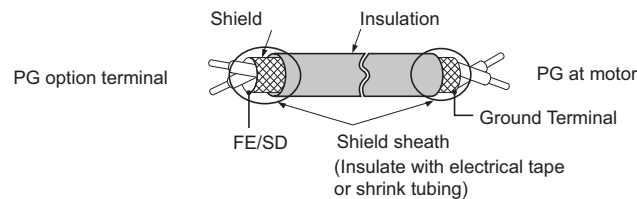
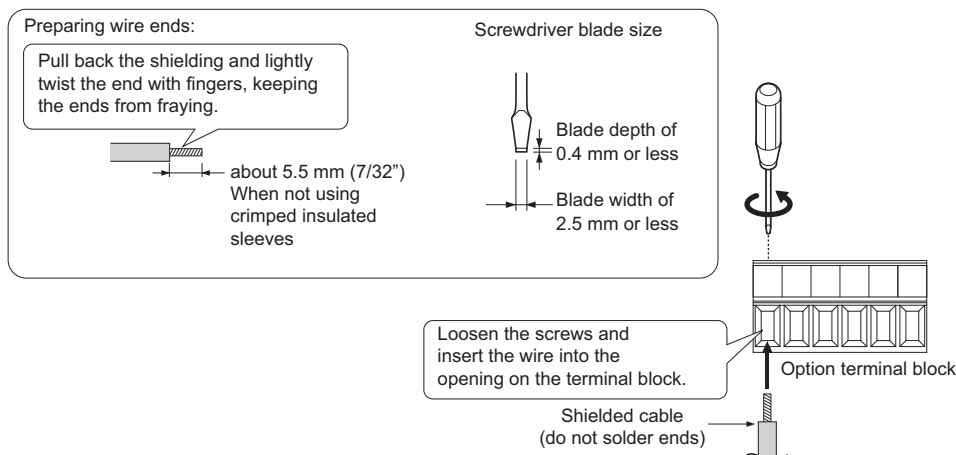

Figure 8.6 Preparing Ends of Shielded Cable
Figure 8.7 Preparing and Connecting Cable Wiring
2. There are two screw holes on the drive for use as ground terminals (H). When connecting three options, two ground wires will need to share the same drive ground terminal.
4. Prepare and connect the wire ends as shown in **Figure 8.6** and **Figure 8.7**. Refer to **Wire Gauges and Tightening Torques on page 382** to confirm that the proper tightening torque is applied to each terminal. Take particular precaution to ensure that each wire is properly connected and wire insulation is not accidentally pinched into electrical terminals.